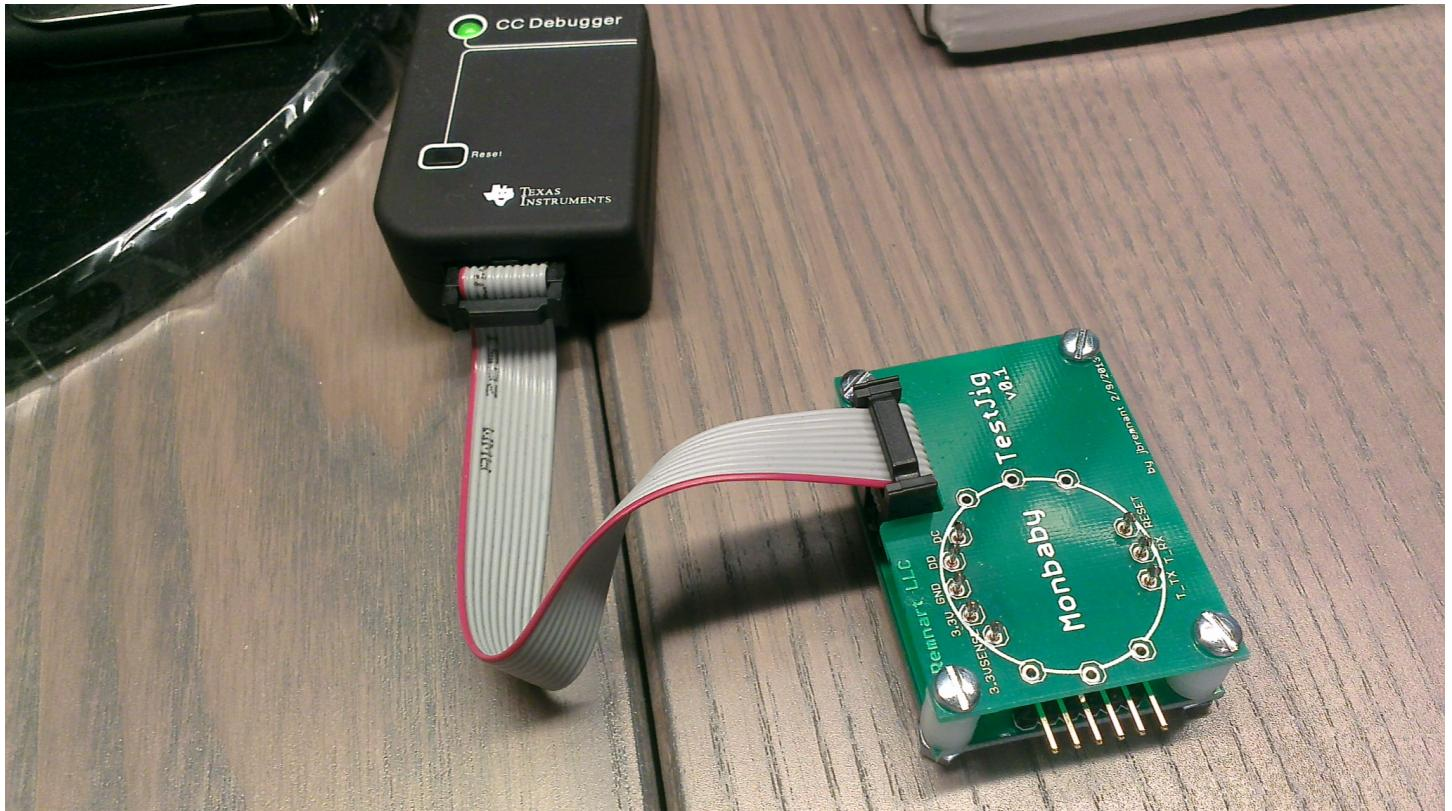

Figure 1: debugger and jig
1. Connect the ribbon connector to the testJig. (refer to Figure 1 above)